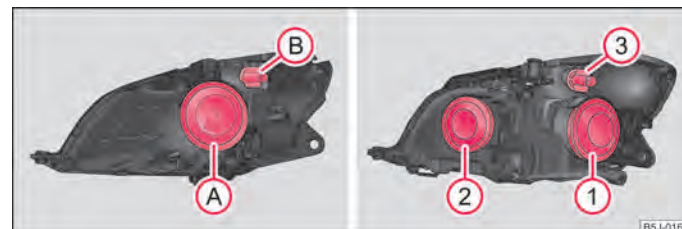

Fig. 157 Fitting position of the bulbs: Halogen headlights/halogen projector headlights
- Remove the protective cap (A) ⇒ fig. 157.
- Remove the protective cap (1) ⇒ fig. 157.
- Remove the protective cap (2) ⇒ fig. 157.
- Turn the socket (B) ⇒ fig. 157 or the socket (3) to the left and take it out together with the light bulb for the turn signal light.
- Remove the protective cap (A) or (2) ⇒ fig. 157.